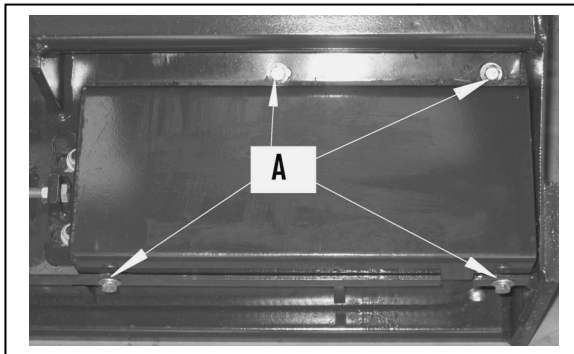

Fig 6.
3. AG 150 Dispenser. Place machine on stable ground. Remove 4\* M8 bolts Fig 6. This will allow the guard to be removed.
12. AG 150 series, re-fit guard removed at stage 3 (Fig 6)